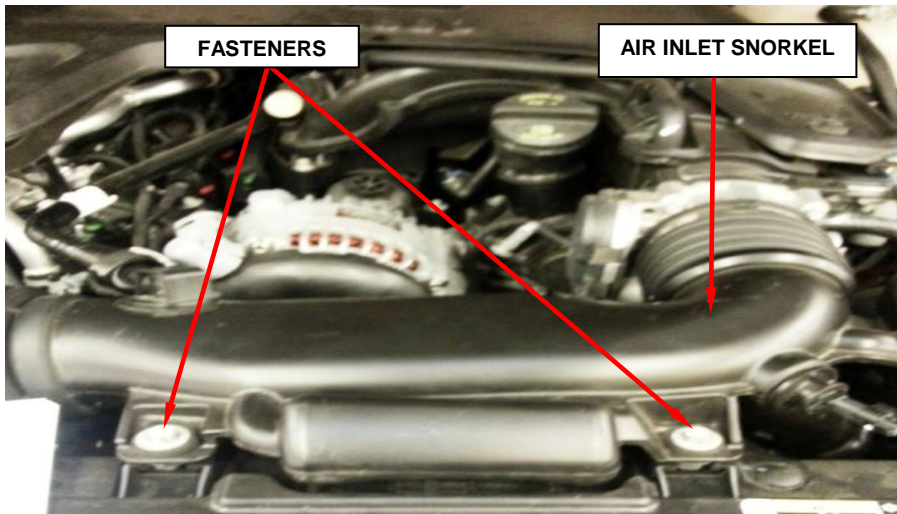

Figure 2 – Air Inlet Snorkel
2. **JL 3.6L Model**, remove the air inlet snorkel and fasteners (Figure 2).
10. **JL 3.6L Model**, install the air inlet snorkel (Figure 2).